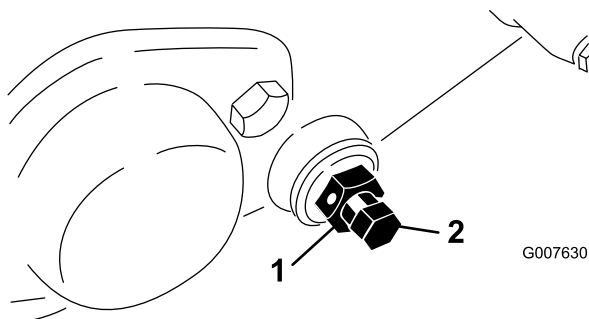

Figure 49
3. On each side of the machine, loosen the jam nut securing the bedbar bolt (Figure 49).
4. Remove each bedbar bolt allowing the bedbar to be pulled downward and removed from the machine. Save the 2 nylon and 2 stamped steel washers on each end of bedbar (Figure 49).